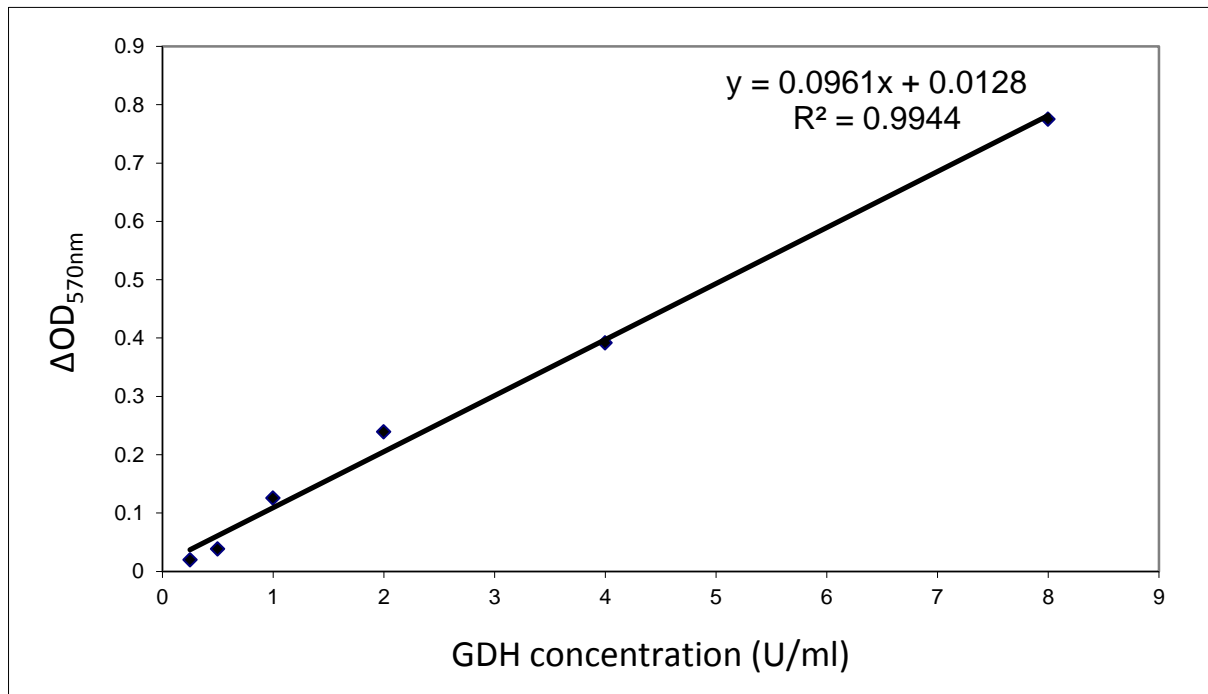

Figure1. A typical GDH standard curve measured by ScienCell™ Glutamate Dehydrogenase Assay kit
Data from Glutamate Dehydrogenase Assay of GDH standard with concentrations ranging from 0.25 to 8 U/ml show a linear relationship between OD_{570nm} and GDH activity (Figure 1).
2. Based on the calibrated $\Delta\text{OD}_{570\text{nm}}$ of the GDH standard, make a standard curve by plotting $\Delta\text{OD}_{570\text{nm}}$ as a function of GDH concentration (See Figure 1 for a typical standard curve). Determine the equation and R^2 value of the trend line.